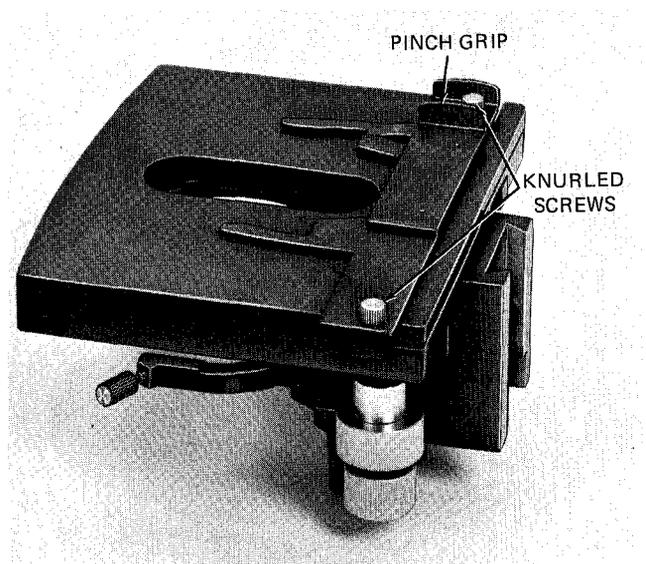

Figure 11. Mechanical Stage
- (b) Mechanical Stage: This type of stage is available in graduated or ungraduated configurations, with a choice of right- or left-hand controls. (Figure 11) Unless ordered otherwise, all Series One-Ten MICROSTAR Microscopes supplied with mechanical stages are equipped with right hand controls.
screws. See Figure 11. The lateral movement of the finger is actuated by the pinch grip.